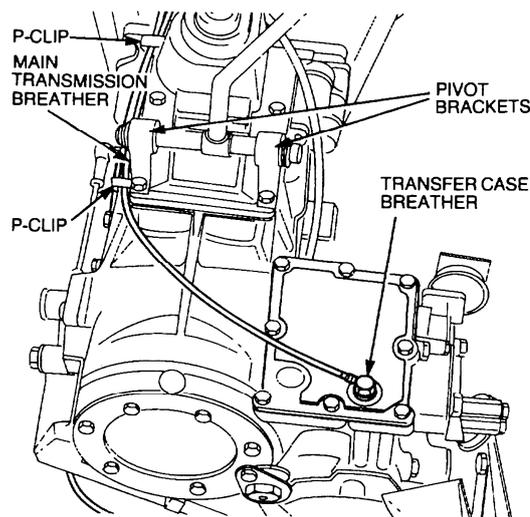

Figure 70 Breather Hose Removal from Transmission
- e. Remove the two banjo bolts and sealing washers securing the breather hoses to the top cover and transfer case cover (Figure 70).